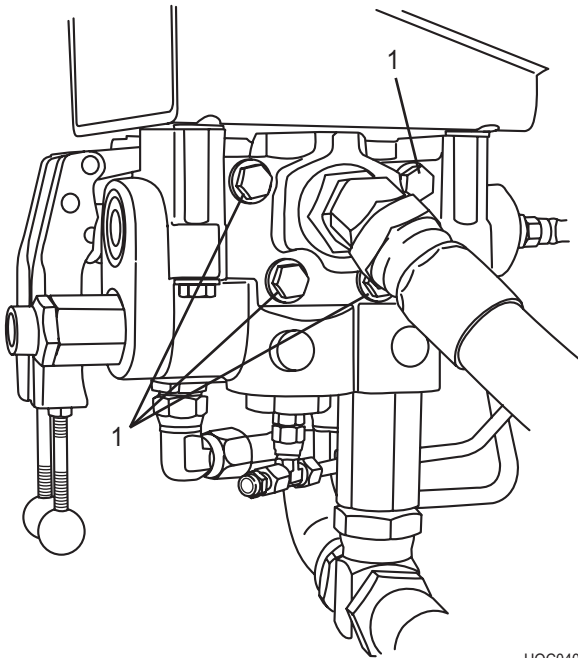

Figure 29
- b. Loosen and retorque inlet unloader valve-to-spool valve assembly bolts (Figure 29, Item 1) to 34 ft. lbs (46 N•m).